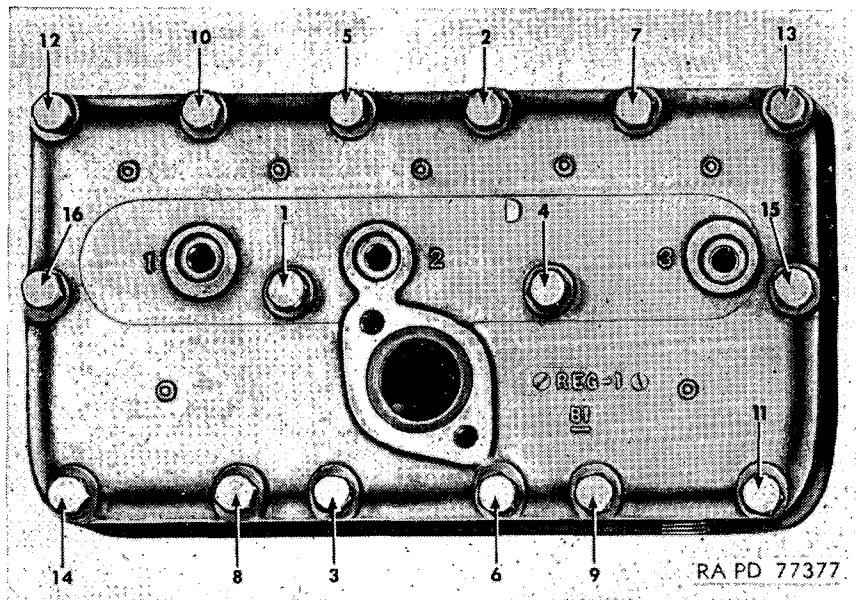

Figure 24. (Superseded.) Cylinder head cap screws.
uu. (Superseded) *Install engine lifting eyes 41-E-628 in engine* (fig. 24). Remove cylinder head cap screw No. 16 from front cylinder head and cylinder head cap screw No. 15 from rear cylinder head. Install two engine lifting eyes 41-E-628 in place of the two cap screws removed. Attach a chain to engine lifting eyes and fasten hoist lift hook to chain.
a. (Superseded) INSTALL ENGINE LIFTING EYES—41-E-628 IN ENGINE (fig. 24). Refer to paragraph 56uu.